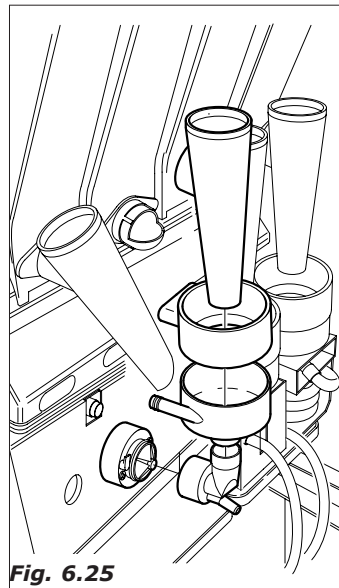

Fig. 6.25
- remove all the powder chutes, water funnels, mixing bowls and whippers and silicone tubes and dip these parts also in the prepared solution (Fig.6.25)